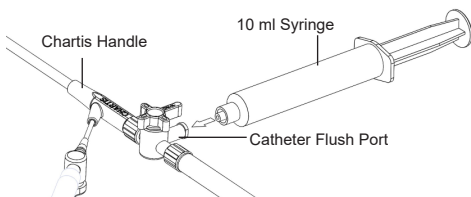

Figure 3: Catheter Flush Port Connection
- Retract the plunger of the 10 mL syringe and connect it to the flush port of the three-way stopcock. See Figure 3 below.